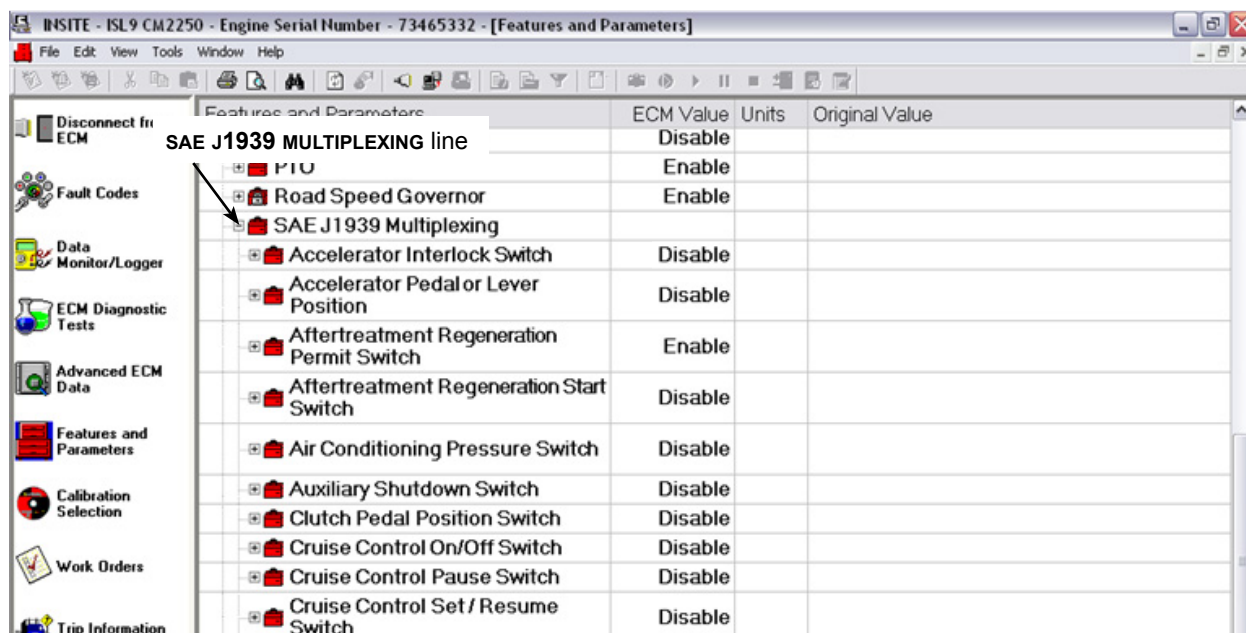

Figure 6 - SAE J1939 Open Menu
- 3.6. Locate and open the **SAE J1939 MULTIPLEXING** line. See Figure 6.